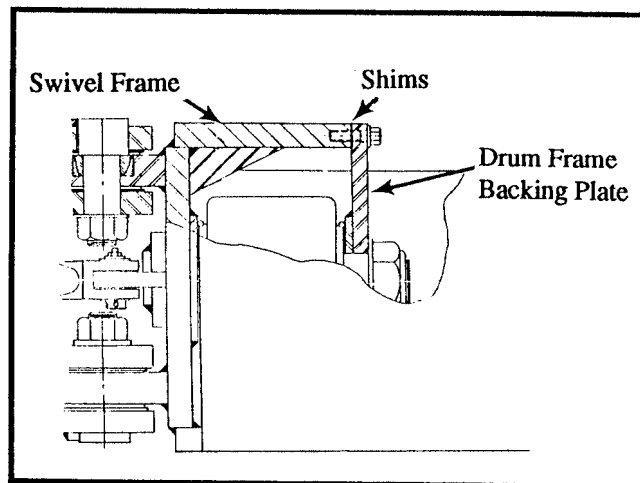

Figure 14-1. Horizontal Swivel Nut Clearance
4. Measure the clearance between the backing plate and drum frame at the two points where the shims were positioned. Refer to Figure 14-1.